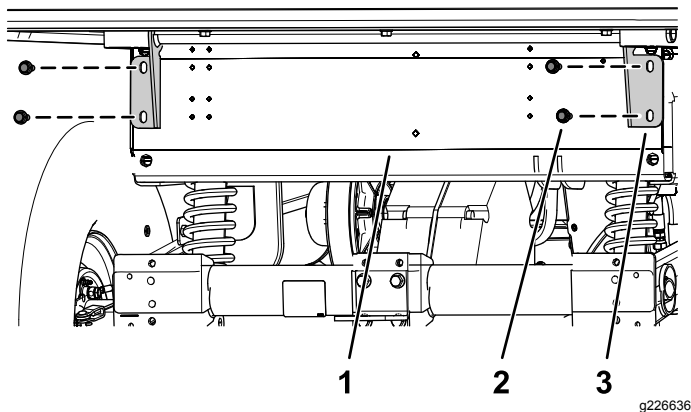

Figure 5
7. Remove the 4 flanged-head bolts (3/8 x 1 inch) that secure the hinge brackets of the cargo bed to the rear frame channel of the machine (Figure 5).
3. Remove the 4 flanged-head bolts (3/8 x 1 inch) that secure the hinge brackets of the cargo bed to the rear frame channel of the machine (Figure 5).